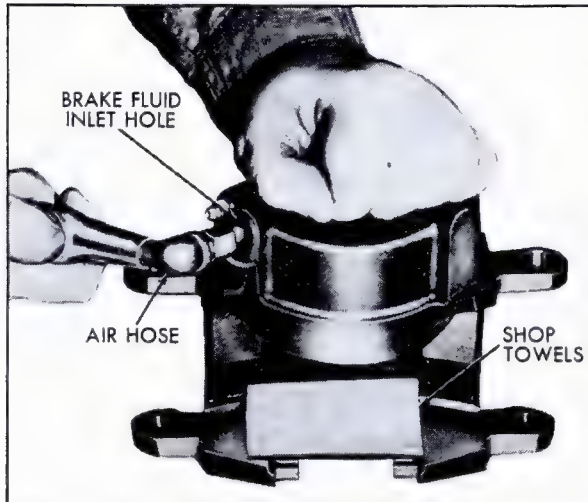

Fig. 5-12 Removing Piston
5. Place a pad of clean shop towels on caliper bridge, Fig. 5-12.